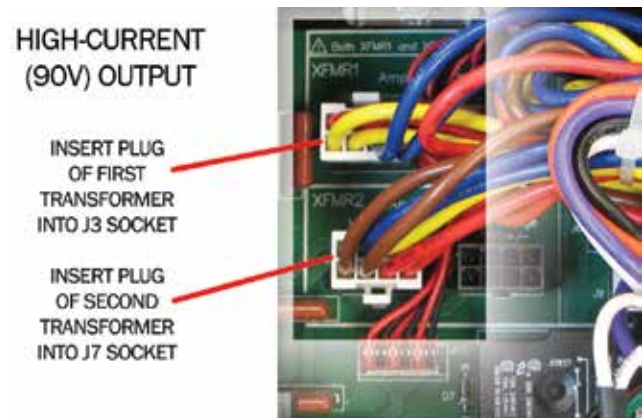

Figure 6.10 – J3 and J7 Plug Locations for High-Current Output
2. For High Current (90V) Output (see **Figure 6.10**).